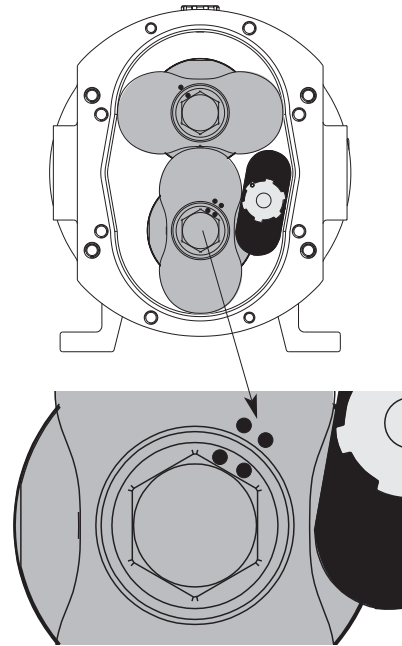

Figure 8
4. Position the indexed rotor **27** on the shaft (only one position) and the rotor locking tool **111** as shown in figure 8 and tighten the screw to the specified torque (see § 7.1). If no torque wrench is available, tighten the rotor until the marks on the rotor are aligned with the marks on the screw. Remove the rotor locking tool **111**.